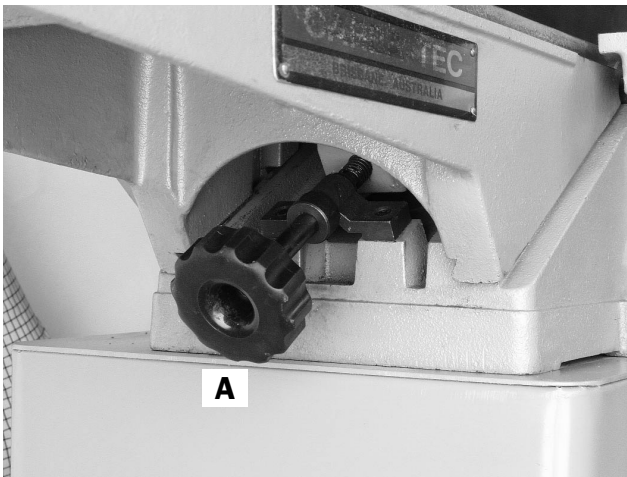
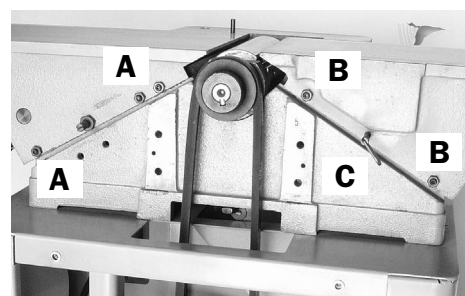

Fig. 11
Fig. 13
The outfeed table should be level with the jointer knives at the highest point of their rotation. Once set to this height it should not be altered, the depth of cut adjustment comes from the infeed table only. If it is necessary to adjust the outfeed table, loosen the locking screw at the back of the jointer, Fig. 13 (C) and turn the knob Fig. 11 (A) under the outfeed table, this will raise or lower the table. Don't forget to tighten the locking screw Fig. 13 (C).
1. There are three lock nuts Fig. 13 (A) for the infeed table and two for the outfeed table Fig. 13 (B). These must be loosened.
4. Repeat the process for the outfeed table, note that this table has a table locking screw, Fig. 13 (C). It is essential that these screws are tight if the tables move up and down too freely, it will be difficult to attain an accurate result.